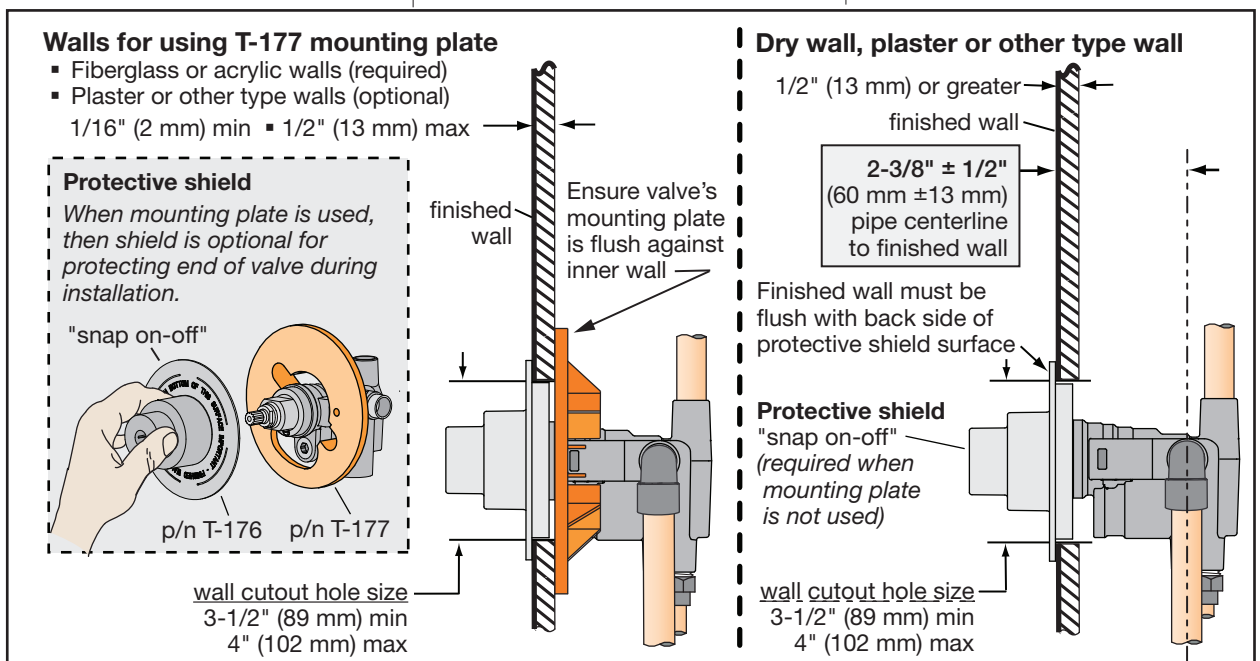

Figure 2 Mounting valve
Attach plastic protective shield by snap fitting over end of valve spindle as shown in Figure 2.
Install through cutout hole in wall as specified in Figure 2 below and Dimensions illustration on page 4.
* **Notes:** (also reference page 2, figure 2 for details)
- (1) Walls for using T-177 mounting plate (MP)
- (2) Dry wall, plaster or other type walls 1/2" or greater
- (3) Dimensions subject to change without notice